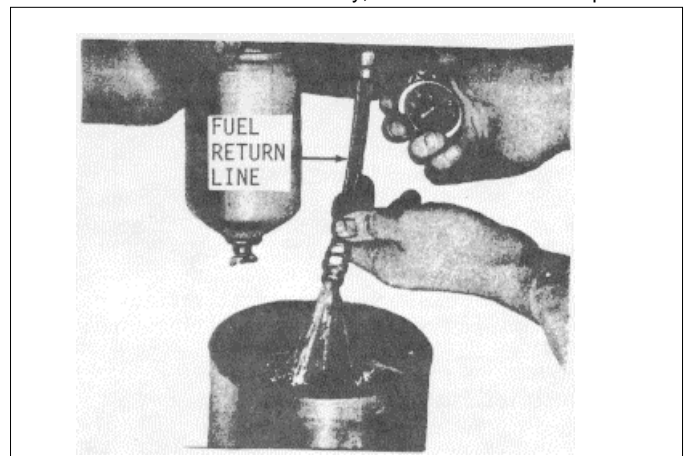

Fig. 5 Measuring Fuel Flow
- (1) Disconnect the fuel return hose from the fitting at the fuel tank and hold the open end in a convenient receptacle (Fig. 5).
- (2) Start and run the engine at 1200 rpm and measure the fuel flow. Refer to SM6-5-70.0 for the specified quantity per minute.
- (3) Immerse the end of the fuel hose in the fuel in the container. Air bubbles rising to the surface of the fuel will indicate air being drawn into the fuel system on the suction side of the pump. If air is present, tighten all fuel line connections between the fuel tank and the fuel pump.
- (4) If the fuel flow is insufficient for satisfactory engine performance, then: